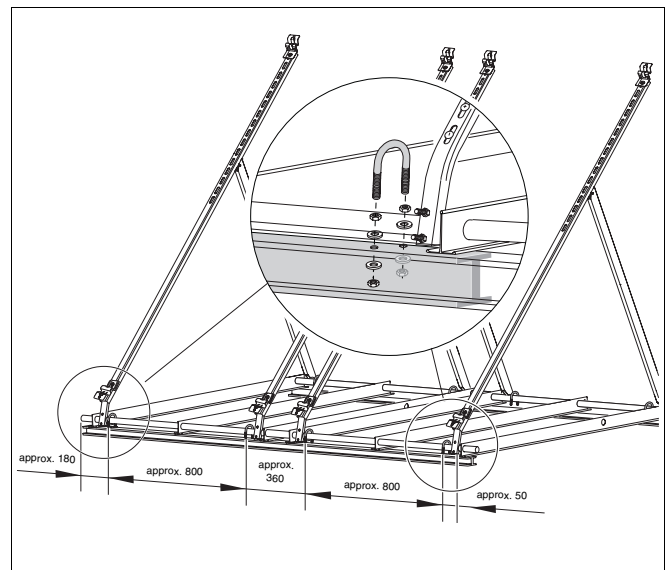

Fig. 30 Fix flat roof stands to girders with U-bolts (dimensions in mm)
Secure each flat roof support (Fig. 30) with at least four U-bolts (to be provided on site) (1", M8/8.8).
- Secure the U-bolts with the girder (see detail Fig. 30).